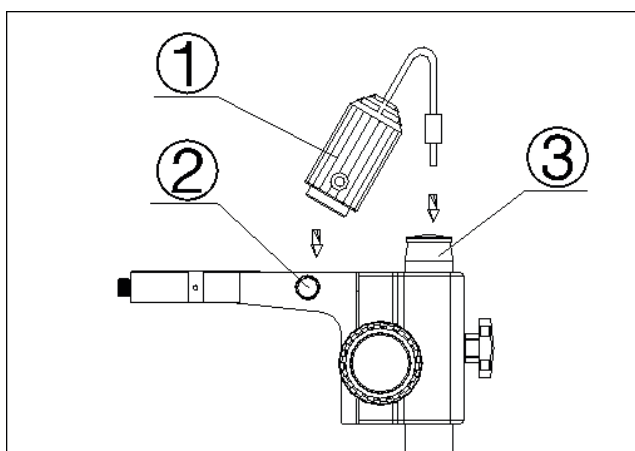

Fig. 5
- 7.1) Insert the illumination device in the bracket with the protrudent side toward the lock-screw and tighten the lock-screw. (Fig. 5)